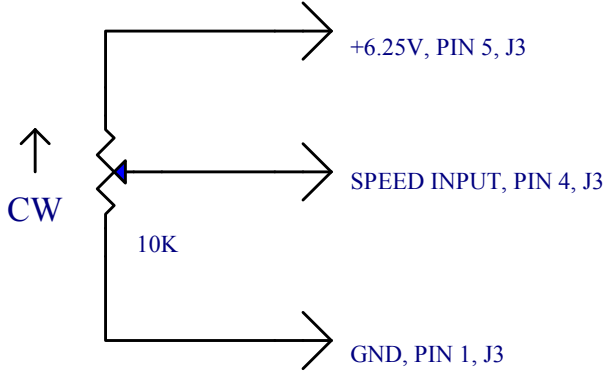

Figure 1
6. Connect the wiper of a 10K potentiometer to pin 4 of connector J3, and either end to GND (pin 1, J3) and +6.25V (Pin 5, J3) as shown in the schematic in Figure 1:
4. Connect a potentiometer as in figure 1 to connector J3 or connect another voltage source between J3 pin 4 and J3, pin 1.